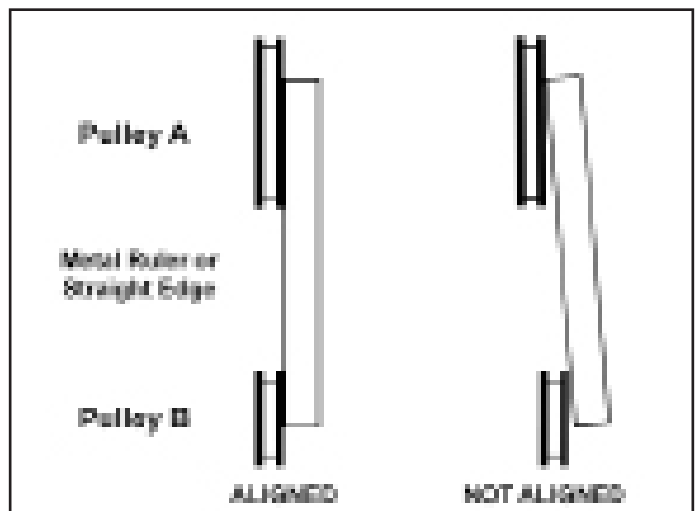

FIG. 25
1. With a metal straight edge, or perfectly flat board, place the straight edge against the faces of the two pulleys that are connected by the same belt. FIG. 25.